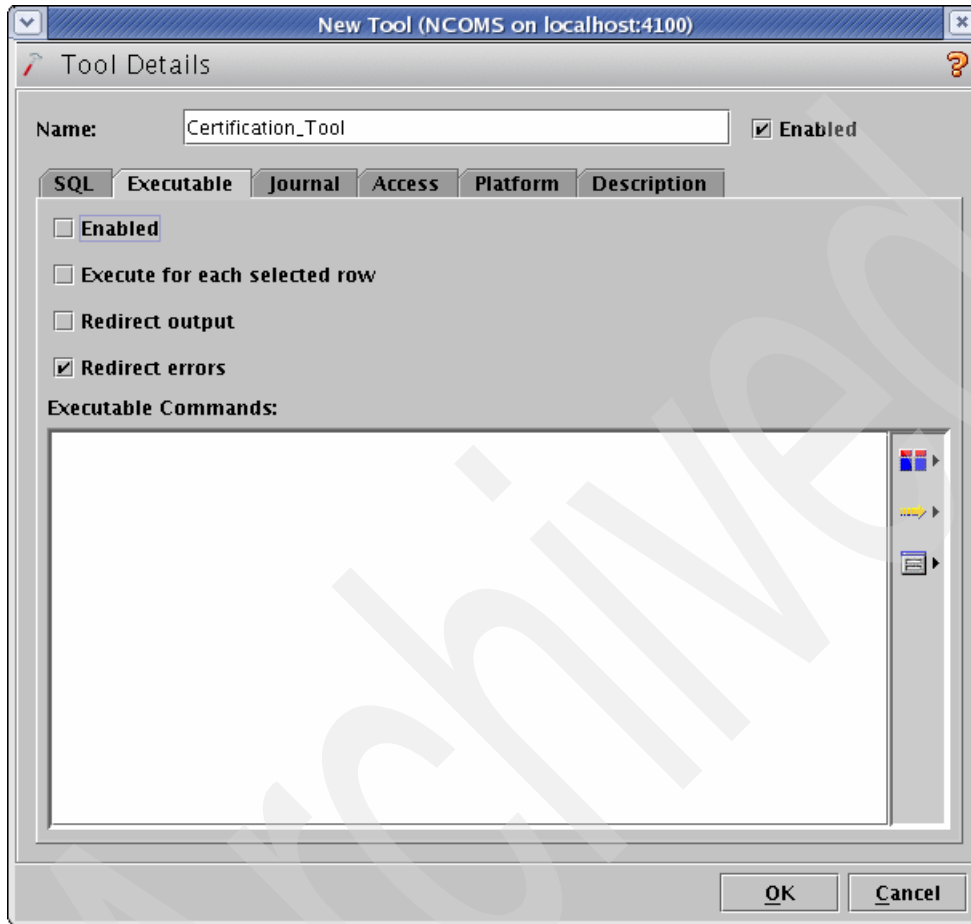

Figure 4-40 Tool creation window
3. If you want to run an executable, enter the executable name in the Executable tab, as shown in Figure 4-40.